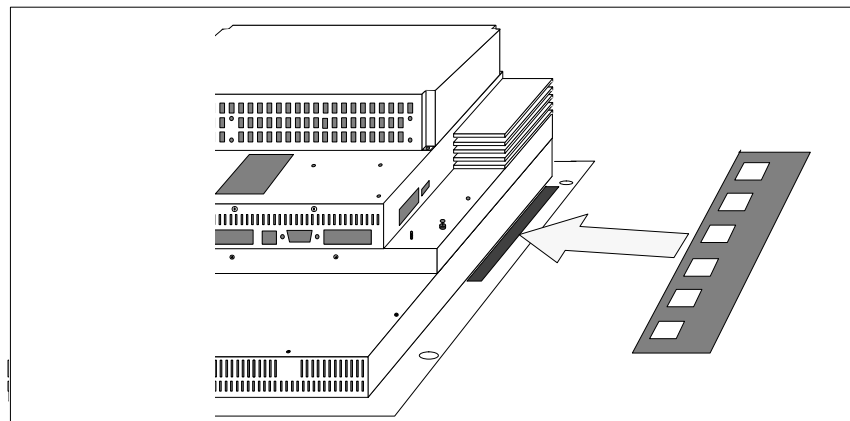

Figure 2-4 Inserting labelling strips for outer row of function keys
3. The labelling strips for the outer odd-numbered function keys F9 to F19 can be replaced through the side slit without further dismantling the unit, as illustrated in Figure 2-4.